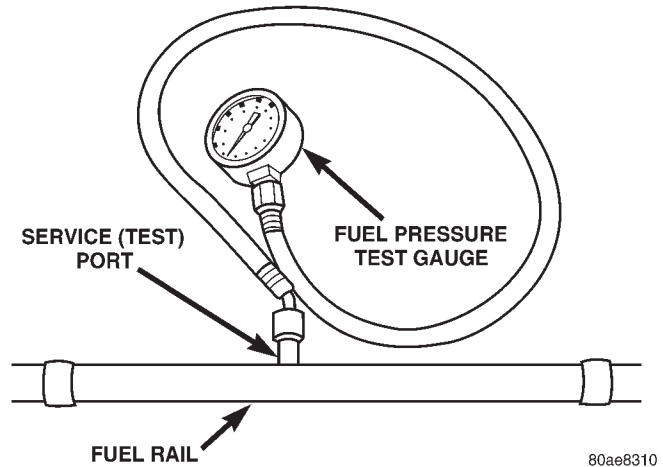

Fig. 7 Fuel Pressure Test Gauge (Typical Gauge Installation at Test Port)
(1) Remove protective cap at fuel rail test port. Connect the 0–414 kPa (0–60 psi) fuel pressure gauge (from gauge set 5069) to test port pressure fitting on fuel rail (Fig. 7).
(2) Start and warm engine and note pressure gauge reading. Fuel pressure should be 339 kPa \pm 34 kPa (49.2 psi \pm 5 psi) at idle.
(3) If engine runs, but pressure is below 44.2 psi, check for a kinked fuel supply line somewhere between fuel rail and fuel pump module. If line is not kinked, but specifications for either the Fuel Pump